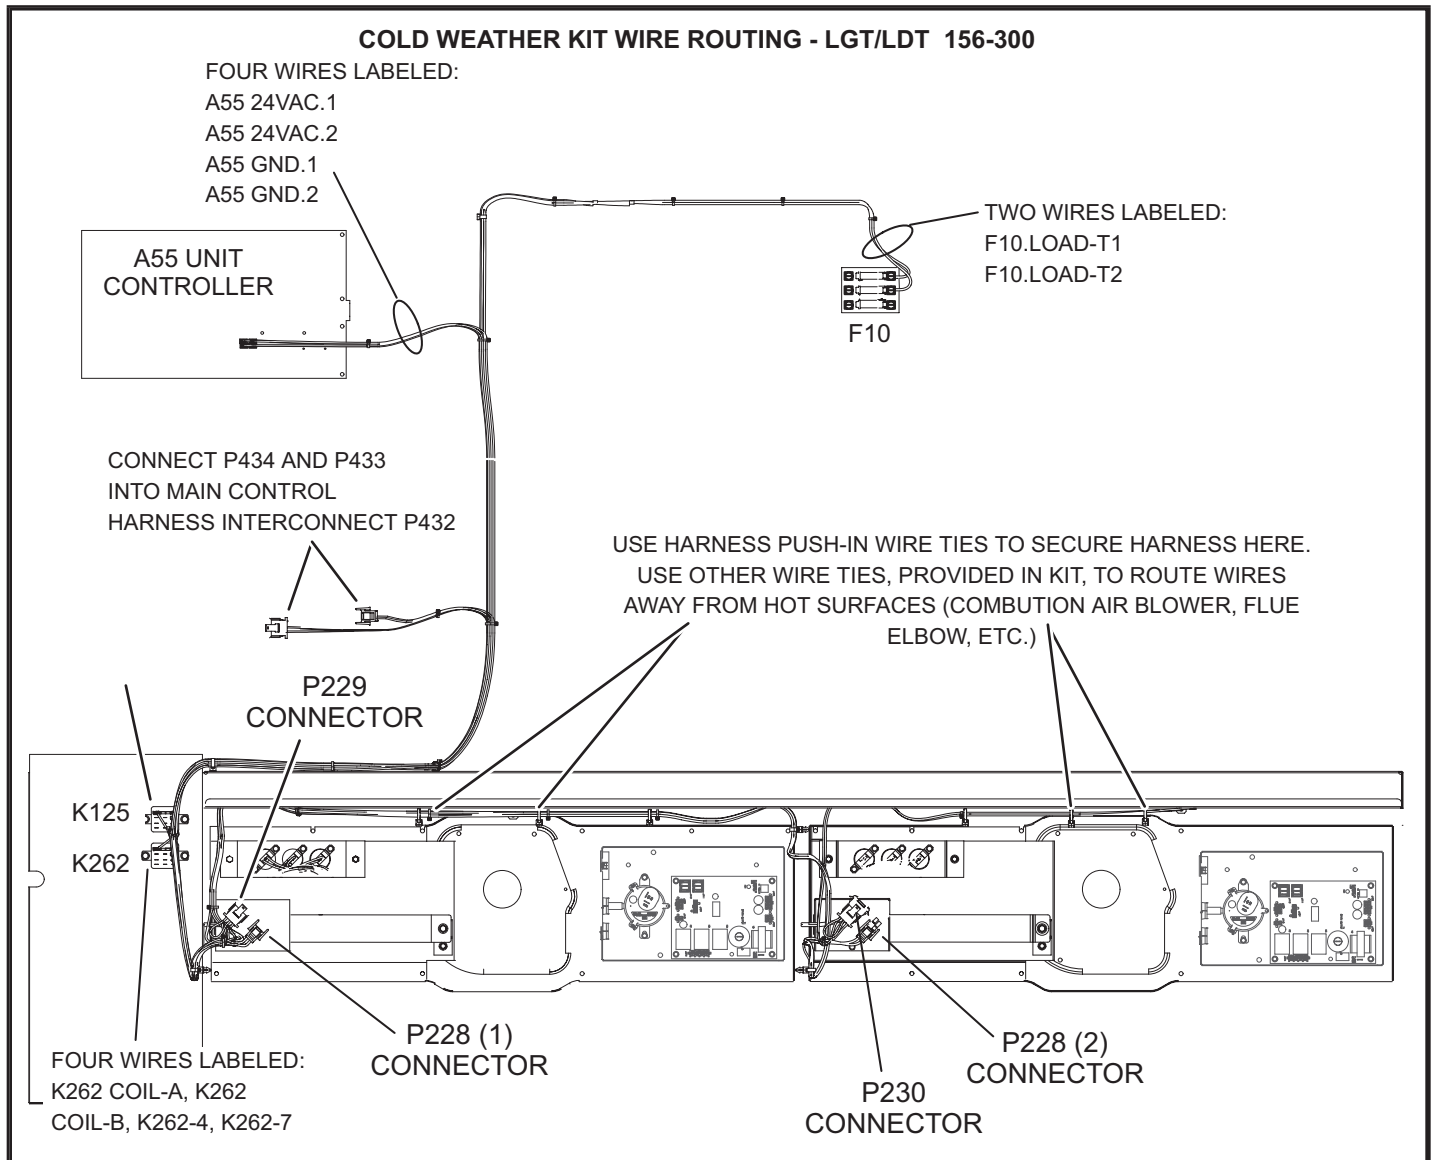

FIGURE 22
- 3 - Install both relays as shown in figure 22. Secure with #8 screws.
- 4 - Locate harness labeled 108303-01. Route as shown in figure 22. Secure with wire ties. Discard unused harnesses.